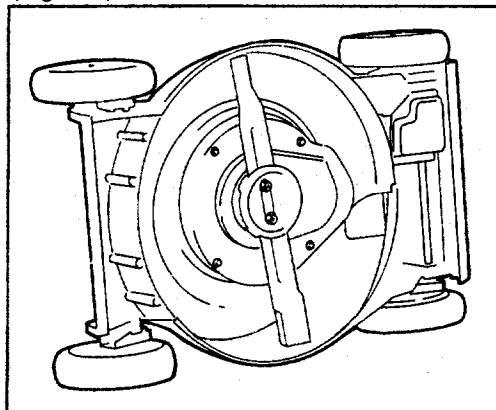

Figure 37
3. Tip mower on its right side (Fig. 37).